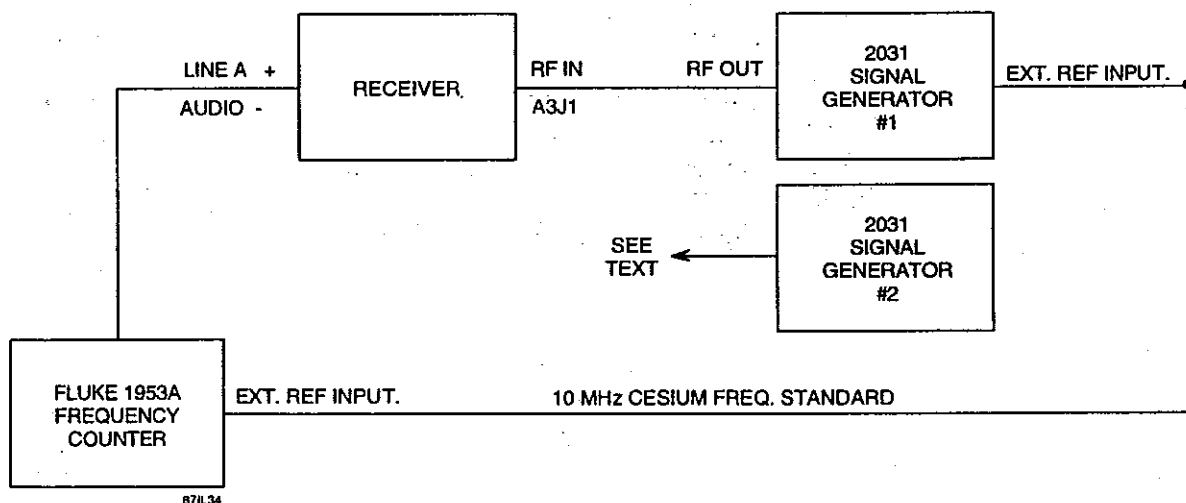

Figure 7-3. Reference Frequency Timebase Accuracy Performance Test Equipment Connection
1. Connect the WJ-8712P Receiver and test equipment as illustrated in **Figure 7-3**. Apply power to the receiver and test equipment and allow a warm-up period of at least 30 minutes before proceeding with the timebase testing.